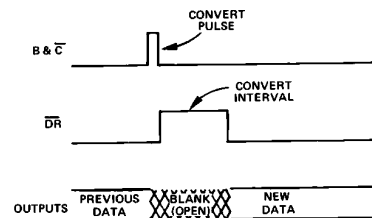
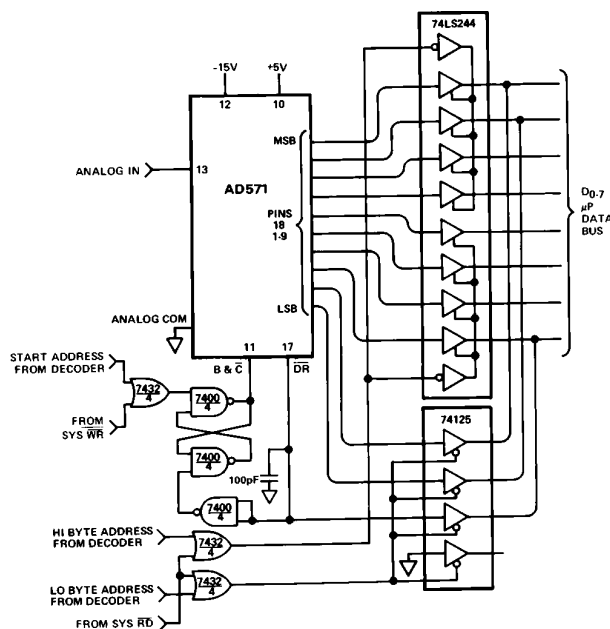

Figure 11. Convert Pulse Mode
Figure 14. Interfacing AD571 to an 8-Bit Bus (8080 Control Structure)
**Convert Pulse Mode**—In this mode, data is present at the output of the converter at all times except when conversion is taking place. Figure 11 illustrates the timing of this mode. The BLANK and  $\overline{\text{CONVERT}}$  line is normally low and conversions are triggered by a positive pulse. A typical application for this timing mode is shown in Figure 14, in which  $\mu\text{P}$  bus interfacing is easily accomplished with three-state buffers.
The AD571 can easily be arranged to be driven from standard microprocessor control lines and to present data to any standard microprocessor bus (4-, 8-, 12- or 16-bit) with a minimum of additional control components. The configuration shown in Figure 14 is designed to operate with an 8-bit bus and standard 8080 control signals.